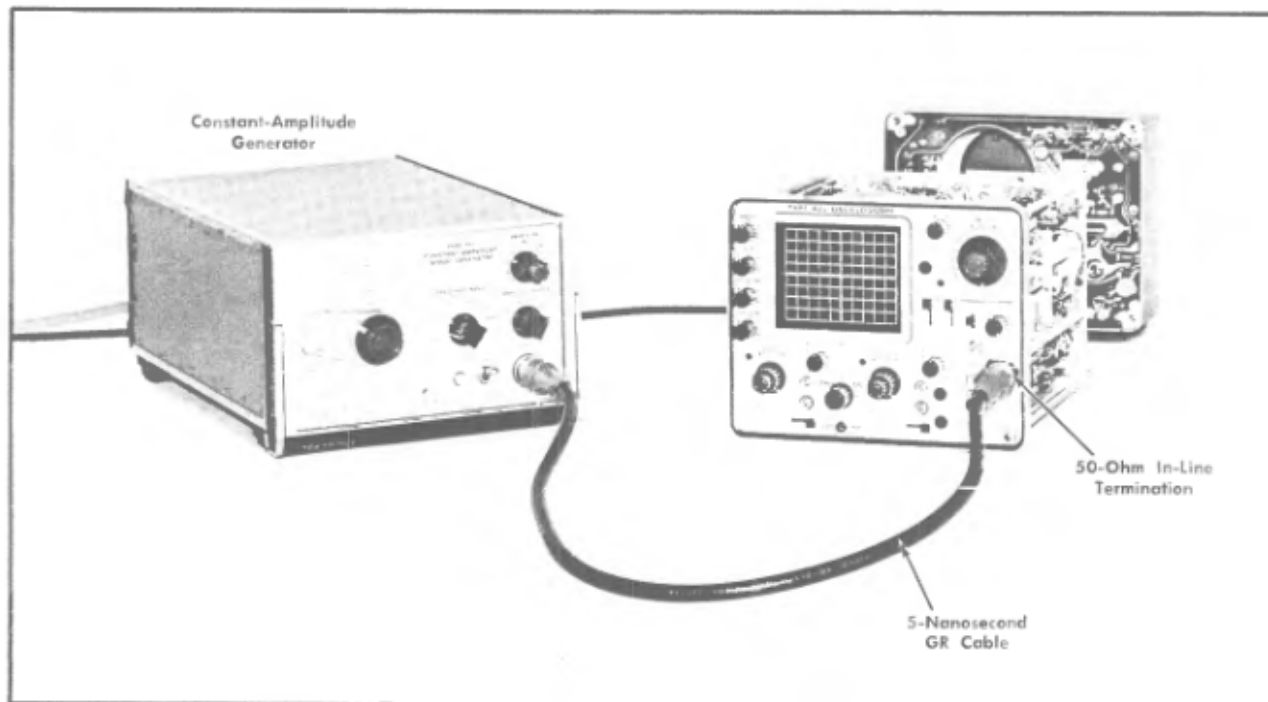

Fig. 6-54. Initial test equipment setup for steps 50 and 51.
- a. Test equipment setup is shown in Fig. 6-54.